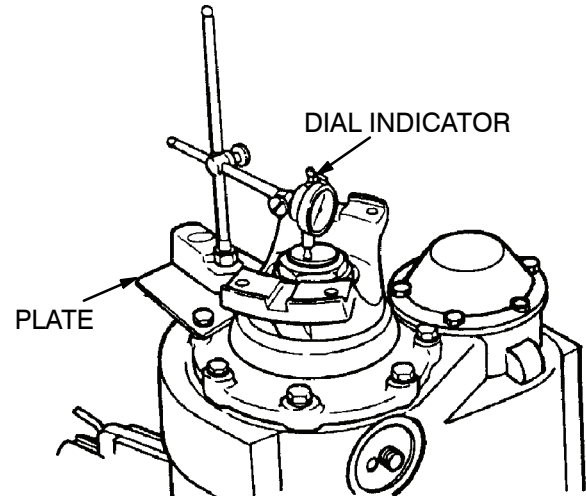

Figure 99.
- (8) Put a holding tool on the input yoke and tighten the nut to 600–800 ft–lbs (813–1085 N·m).
- (9) Check the end play of the input shaft according to the following procedure:
- (b) Use a dial indicator with a magnetic base or a C-clamp base to check the end play of the input bearing. Make sure the pointer of the dial indicator is against the top of the input shaft. Set the dial indicator at zero (0). Figure 99.